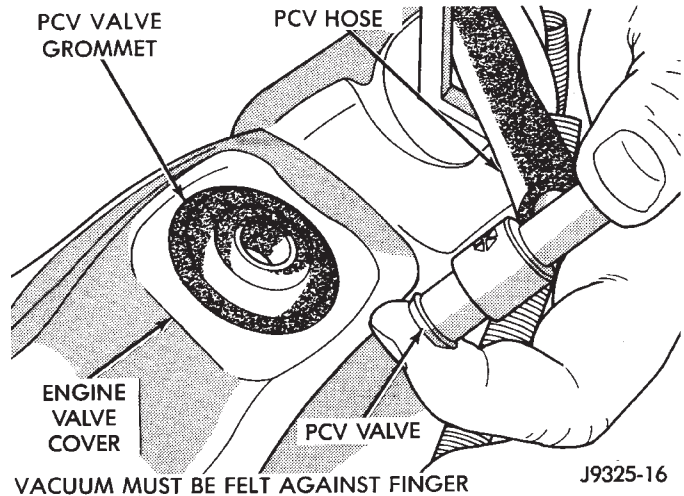

Fig. 16 Vacuum Check at PCV Valve—Typical
(1) With engine idling, remove the PCV valve from cylinder head (valve) cover. If the valve is not plugged, a hissing noise will be heard as air passes through the valve. Also, a strong vacuum should be felt at the valve inlet (Fig. 16).